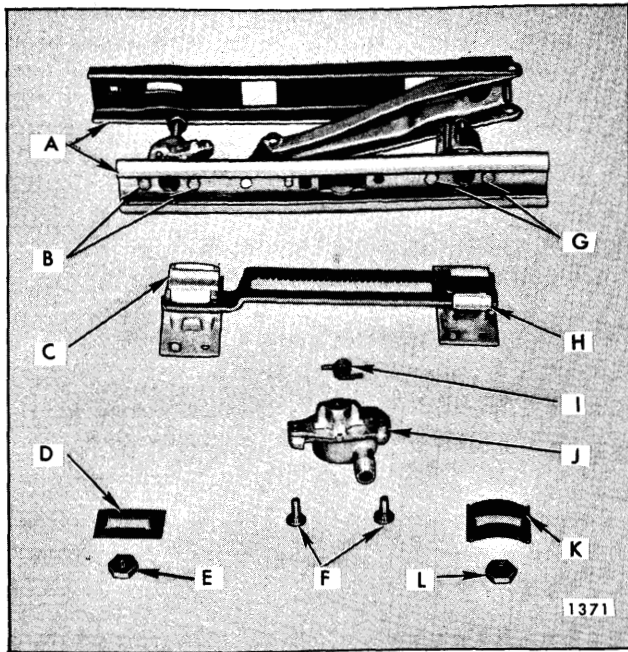

Fig. 10-19—Six-Way Seat Adjuster Components -
- Lay adjuster on its side and remove front vertical gearnut attaching screws (Fig. 10-19); then remove gearnut from adjuster.
- Lay adjuster on its side and remove rear vertical gearnut attaching screws; then remove gearnut from adjuster (Fig. 10-19).
- If lower channel is being replaced with a new part, transfer plastic slides to new part (Fig. 10-19).
- Transfer front and rear gearnuts to new upper channel (Fig. 10-19).